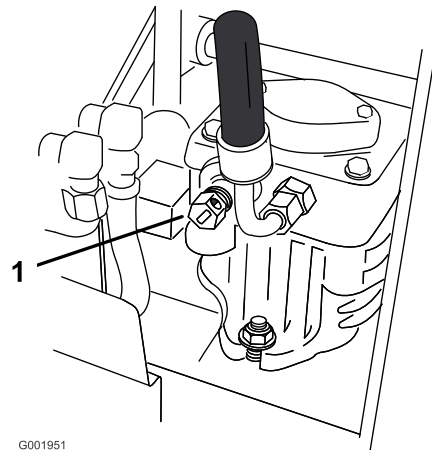

Figure 13
2. Open the bypass valve on both pumps by turning them counterclockwise 1 to 2 turns (Figure 13).